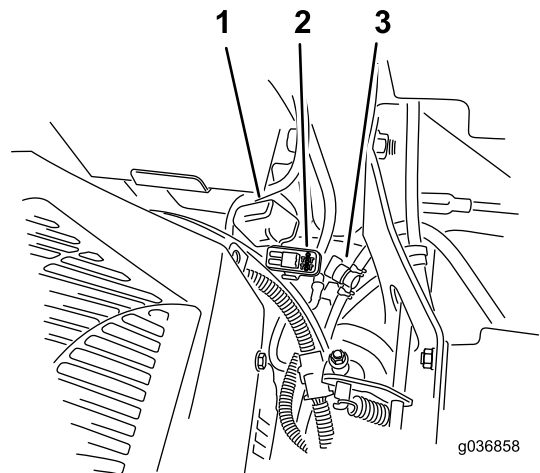

Figure 48
The fuses are located on the right console next to the seat (Figure 48).
2. Install a new fuse (Figure 48).